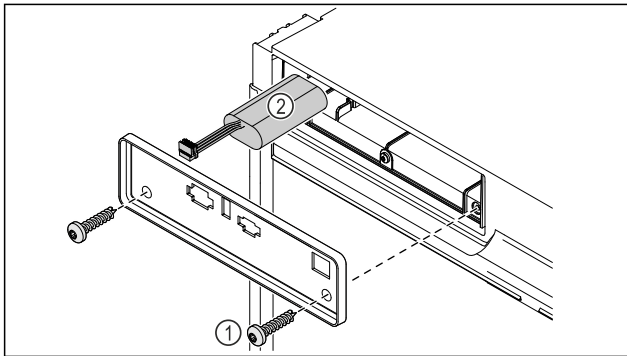

Fig. 189
- ▶ Unscrew the screws and remove the cover on the back of the appliance Fig. 189 (1).
- ▶ Disconnect and remove the battery Fig. 189 (2).